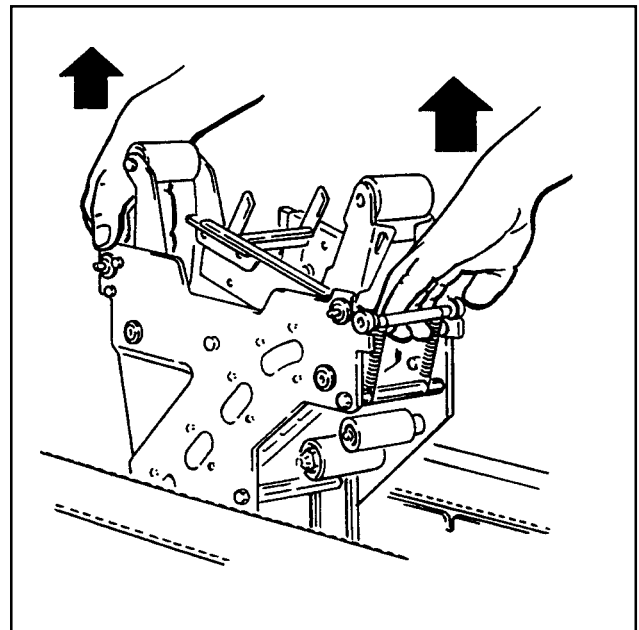

Figure 6-3 – Remove Lower Taping Head
4. Lift the lower taping head, shown in Figure 6-3 and 6-1C, straight up to remove it from the case sealer bed.